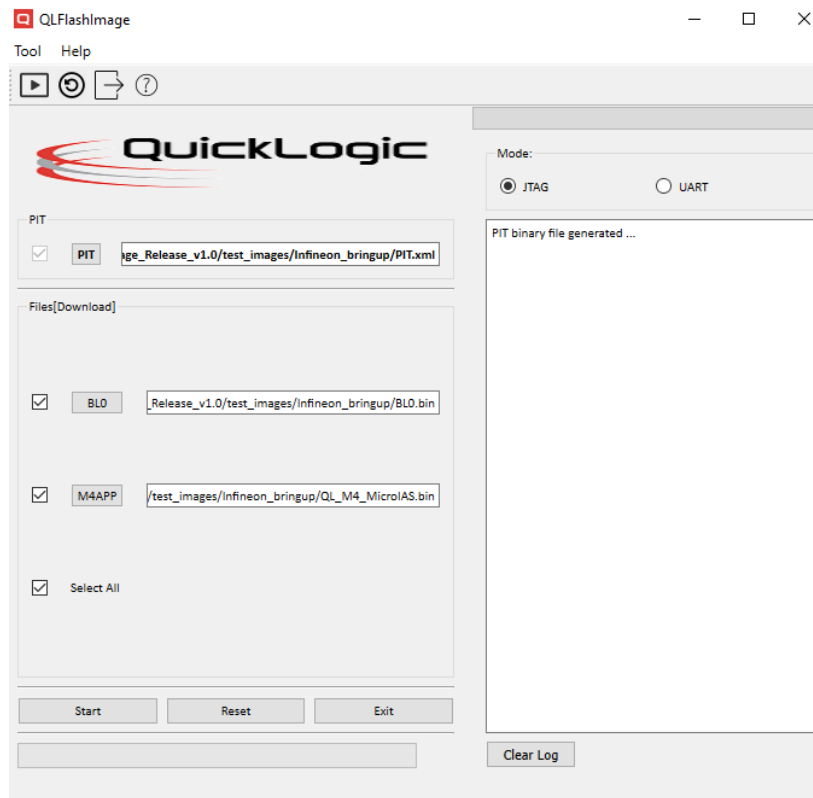

Figure 18 Quick Logic Flashing GUI
5. Open **QLFlashImage.exe** and select the PIT file (**PIT.xml**, describes the files that would be utilized for flashing), Bootloader binary (**EOSS3B_BL.bin**) file and the project binary file (generated and located in Debug folder in the Eclipse Project) as shown in Figure 18. Next, click on Select All and click on Start to start the Flashing.